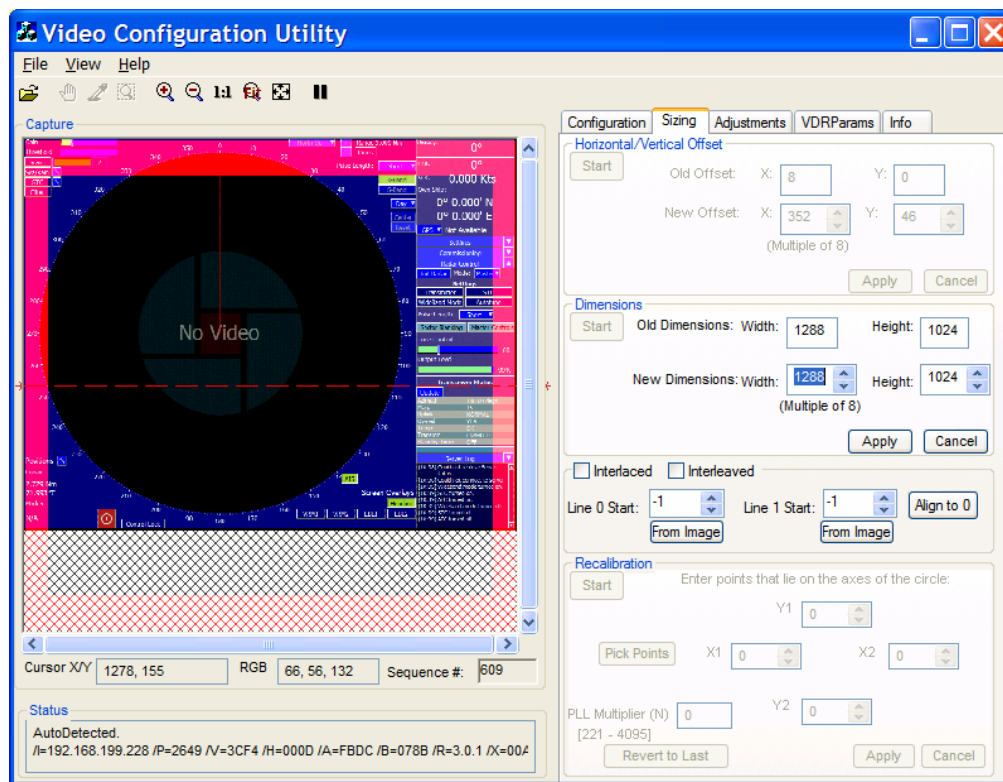

Figure 9-10 - Setting the dimensions
3. Click **Okay** and the captured video image will appear as in Figure 9-10 - Setting the dimensions: